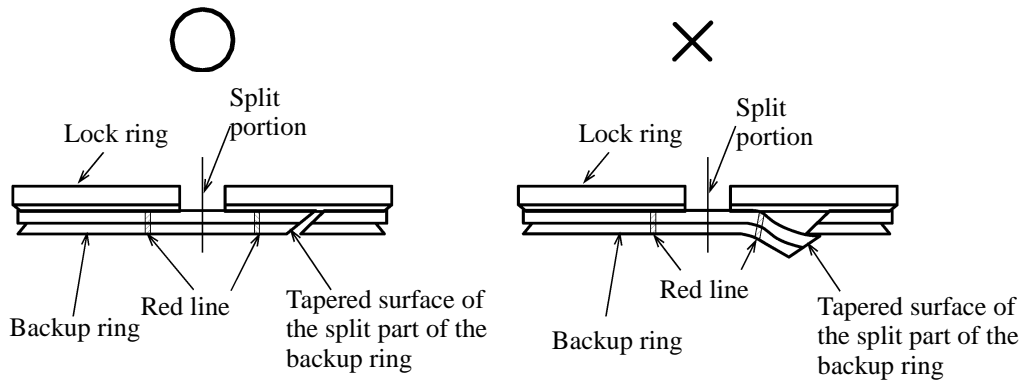

Figure-14 Check of the split part of the backup ring
- (1) Locate the two red lines marked on the backup ring at the center of the lock ring split portion to avoid the overlapped part of the backup ring from getting caught in the split portion of the lock ring. (See Figure-14.) Mark both locations of the lock ring edge on the bell end.
- (2) Ensure the tapered surface of the backup ring faces toward the socket. (See Figure-14.)
- (3) Ensure the split edges of the backup ring (diagonally cut) face correctly, not crossed over. (See Figure-14.)
- (4) Start inserting (stabbing) the backup ring with the insertion rod from the left side (facing toward the bell) of the split edge to the right (counterclockwise) so the overlapped part will be the last stabbing.